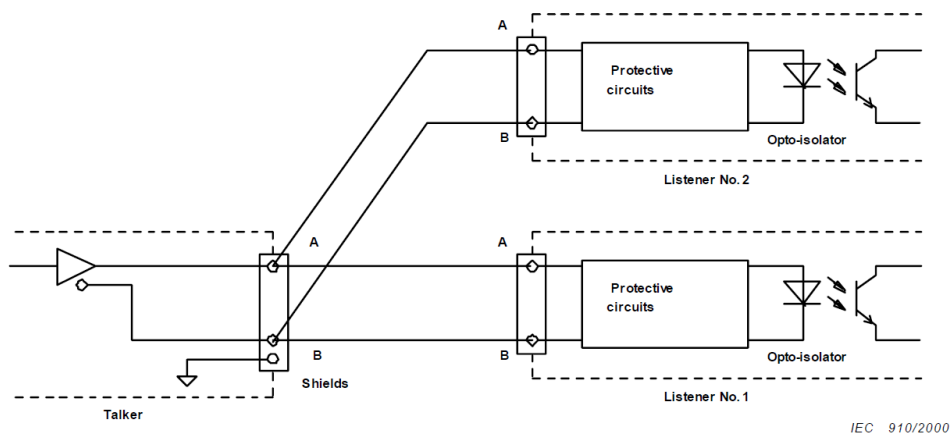

Figure 11: IEC 61162-1 Circuits
- One talker (Tx side, commonly a sensor such as GPS) may be connected to one or more listeners (Rx side, e.g. displays or computer systems such as ECDIS). The circuit looks as shown in *Figure 11: IEC 61162-1 Circuits* on page 16.